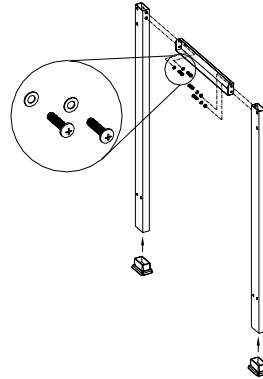

Figure 1
1. Assemble left back cart leg with side cart frame beam using (2) 1/4 x 3/5" Phillips head screws, (2) 1/4" lock washers. Repeat the same step to assemble left front cart leg with side cart frame beam using (2) 1/4 x 3/5" Phillips head screws and (2) 1/4" lock washers. Then attached the foot on the bottom of each leg. (Fig.1)